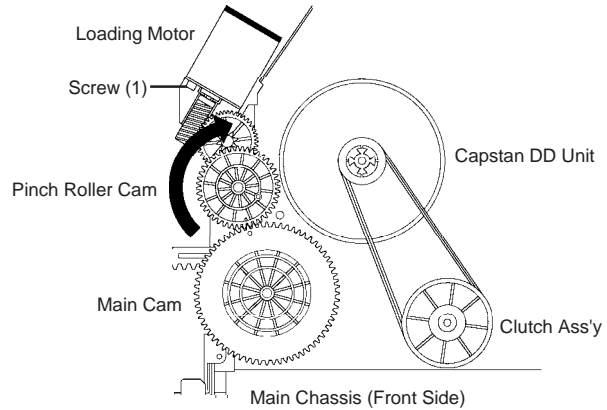

Fig. 2
1. Remove the Top Cabinet, Front Cabinet and DVD Block. (Refer to item 1 of the **DISASSEMBLY INSTRUCTIONS.**)
2. Remove the screw (1) of the Deck Chassis and remove the Loading Motor. (Refer to Fig. 2)